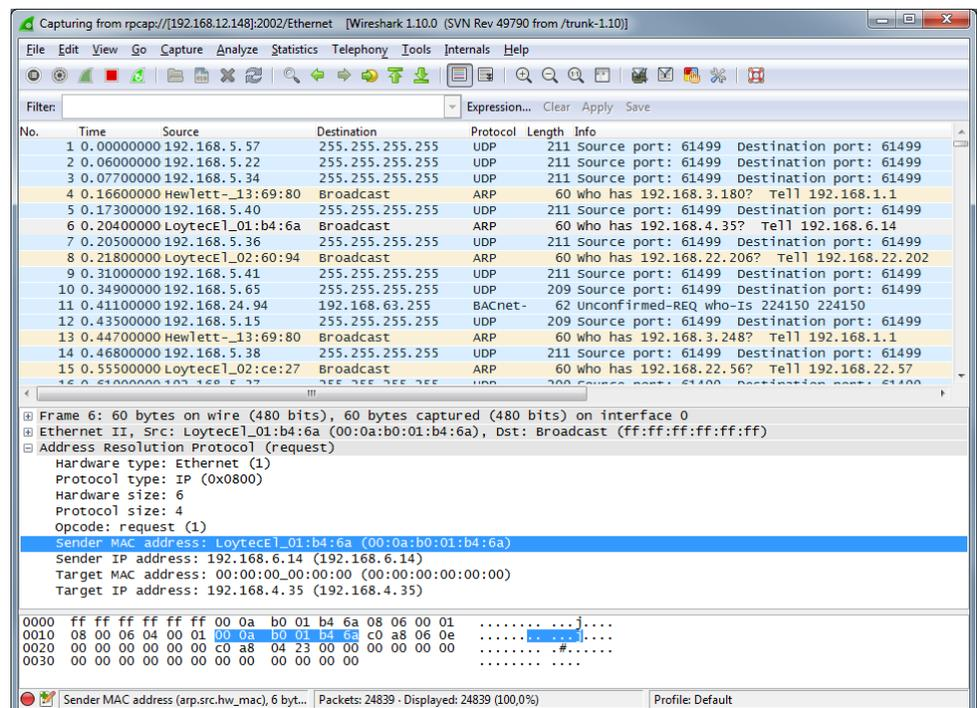

Figure 60: Example remote capture in progress.
- Wireshark will attempt to establish a connection to the device and, if successful, start displaying packets. An example capture is shown in Figure 60.